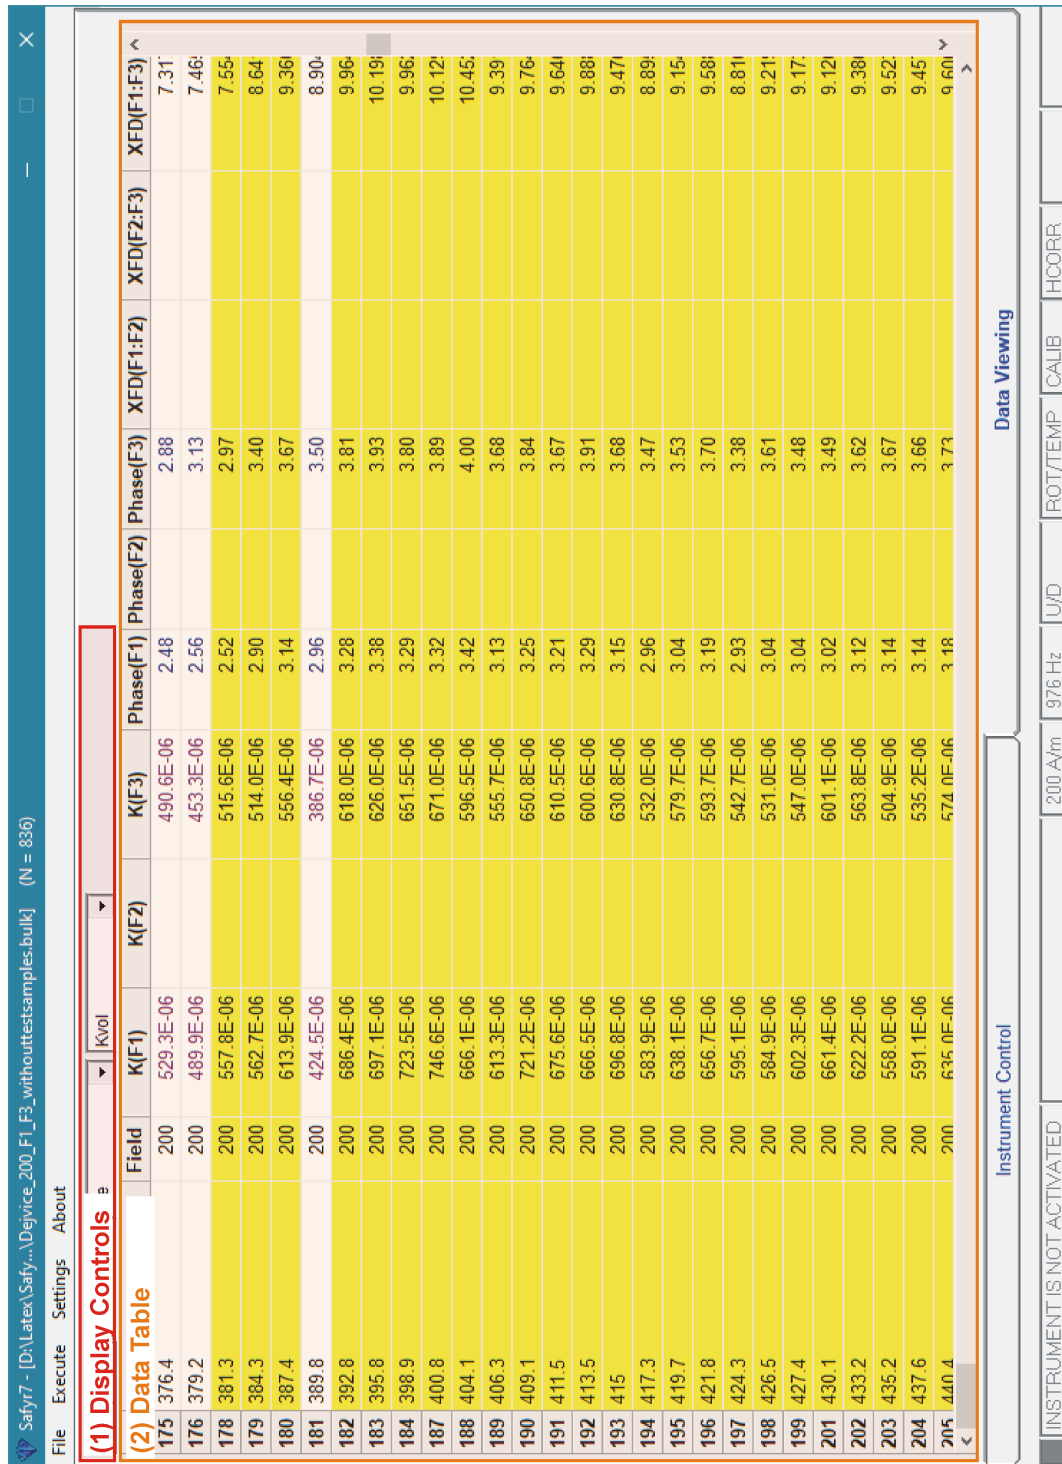

Figure 32: Data Viewing tab-panel displaying a table of Specimen Records; color-coded frames highlight its main parts.
- The **Specimens** list may be expanded into **Data Table** (Figure 32) when **Table** option button is pressed.
- To select specimen(s), click on corresponding row(s) or draw the mouse over several rows with the left button pressed. For multiple selection, hold **Ctrl** to select individual multiple specimens or hold **Shift** to select entire range of specimen. The selected data records are highlighted in **yellow** in **(2) Specimens** list, **(3) Log Plot**, and **(5) Scatter Plot**.
- With the left mouse button pressed, draw a yellow rectangle to select encircled data points. The selected data records are highlighted in yellow in **(2) Specimens** list, **(3) Log Plot**, and **(5) Scatter Plot**.